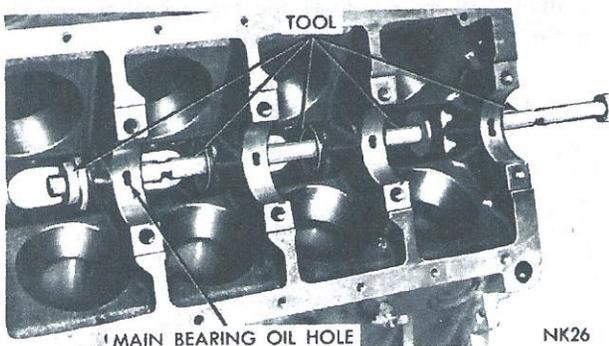

Fig. 33—Removing Camshaft Bearings
- (1) With engine completely disassembled, drive out rear cam bearing welch plug.
- (2) Install proper size adapters and horse shoe washers (part of Tool C-3132A) at back of each bearing shell to be removed and drive out bearing shells, (Fig. 33).